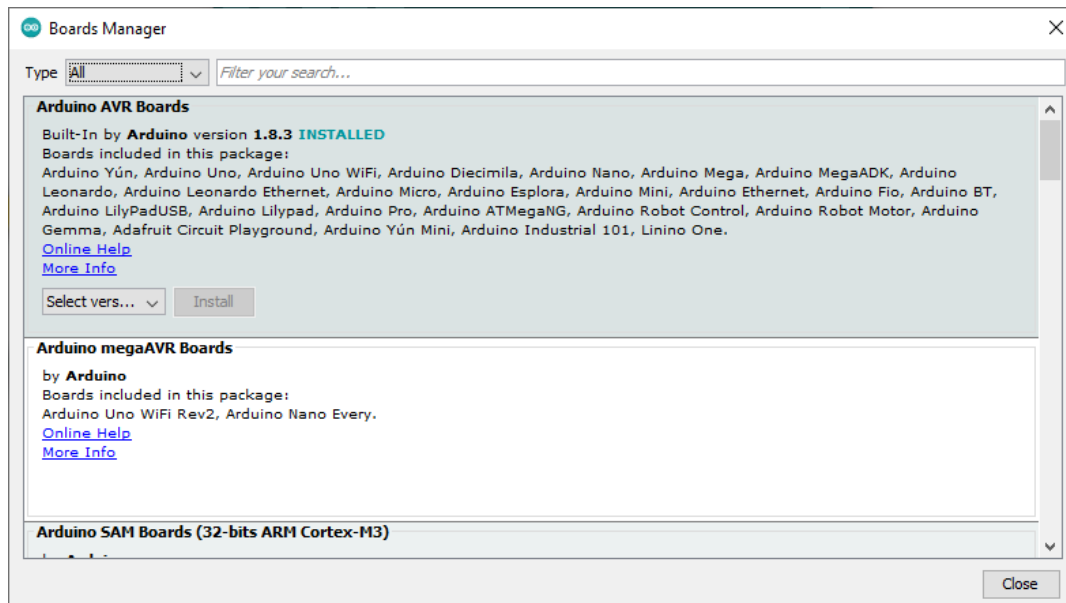

Figure 1. Screen shot of the Boards Manager Dialogue box
- From the Boards Manager dialogue box, shown in Figure 1, ensure the latest version of the **Arduino AVR Boards** driver is installed. You can check if there